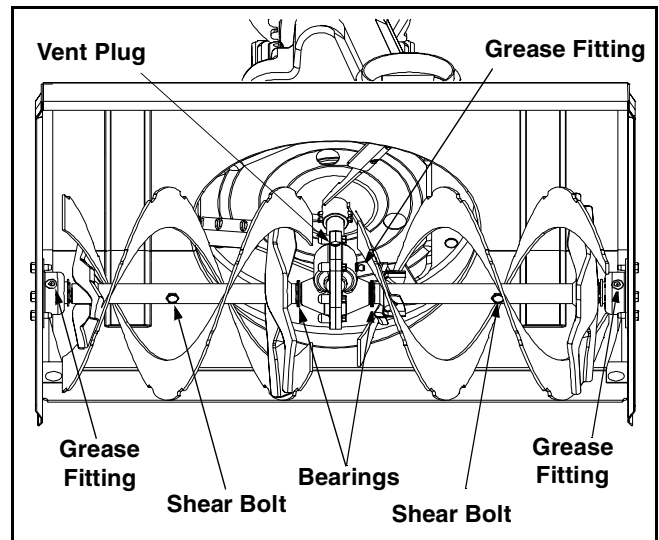

Figure 13
- At least once a season, remove the shear bolts from the auger shaft and spray lubricant inside the shaft. See Figure 13.
- Grease fittings can be found at either end of the auger shaft. Lubricate with a grease gun once a season. See Figure 13.
The auger gear case is equipped with a grease fitting. Lubricate with Shell Alvania lead-free grease once a season (order part number 737-0168). See Figure 13.